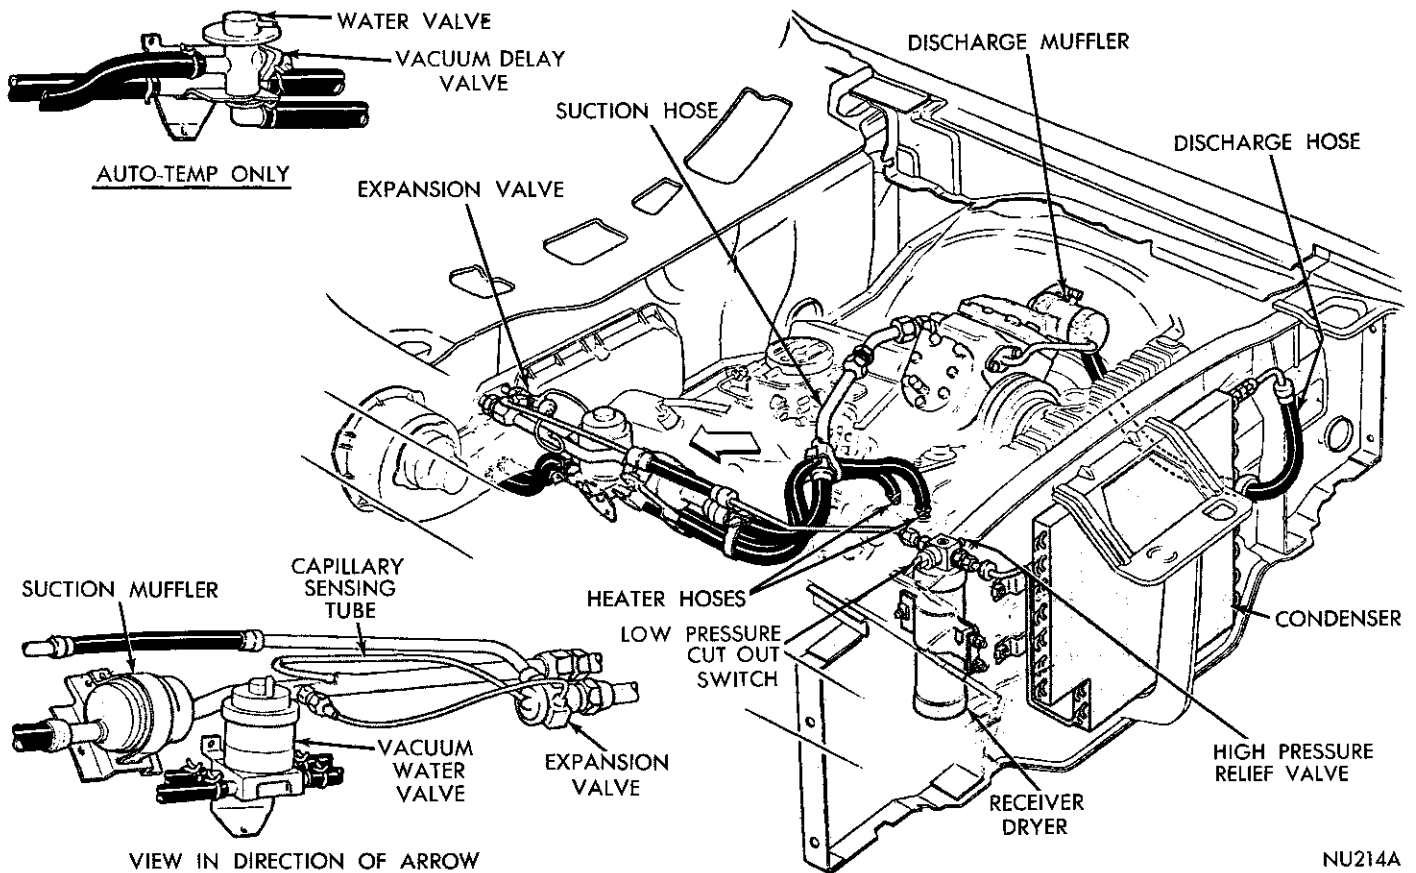

Fig. 12—Air Conditioning and Heater Plumbing (383-440 Engines)
(1) Disconnect equalizer from suction line fitting (Fig. 12).
hoses. Plug both core tubes to prevent spilling coolant when unit is removed (Fig. 12).